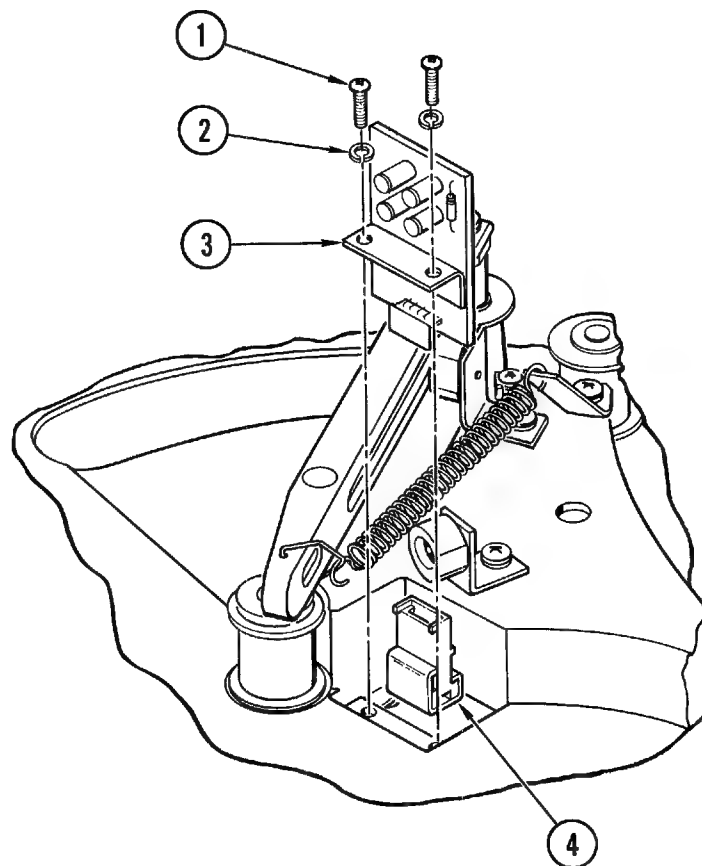

Figure 4-12. EOT/BOT Assembly
4-26. **Removal and Replacement (Figure 4-12).** Place transport in operator maintenance access position, in accordance with paragraph 4-2, and proceed as follows:
- a. Holding compliance arm aside to provide access to mounting screws, remove two screws (1, Figure 4-12) and lock washers (2) and retain for reassembly.
- b. Remove EOT/BOT assembly (3), carefully pulling wires and connector (4) through hole in top plate assembly.